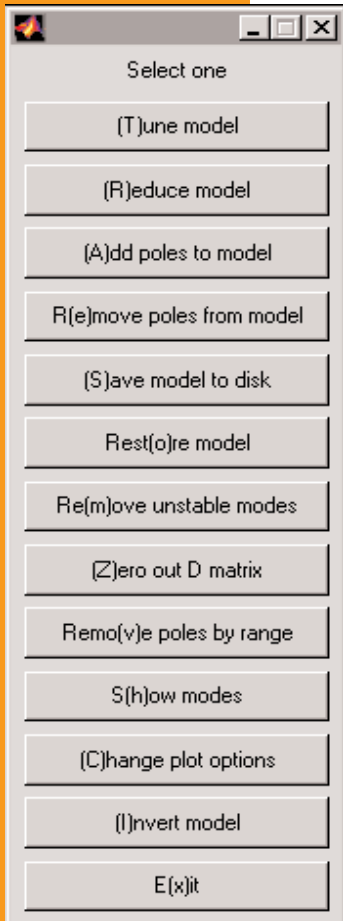

Figure 7. Main menu for accessing model tuning, model reduction, pole addition, and fit display functions.
6. Main menu (Figure 7): user entry into the Logarithmic Least Squares model tuning and reduction functions.